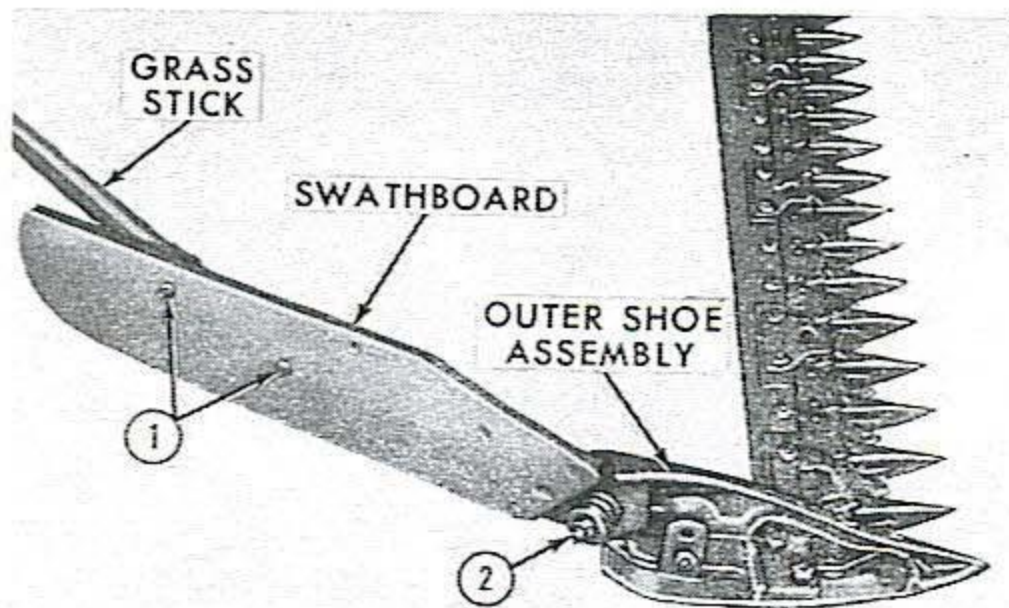

Figure 41
32. Attach the swathboard to the outer shoe assembly with the 1/2" - 13 x 2-3/4" cap screw, spring, flat washer, slotted nut, and lock washer, as shown in Figure 41.
33. Attach the grass stick and swathboard with the two bolts (1), flat washers, and nuts, as shown.